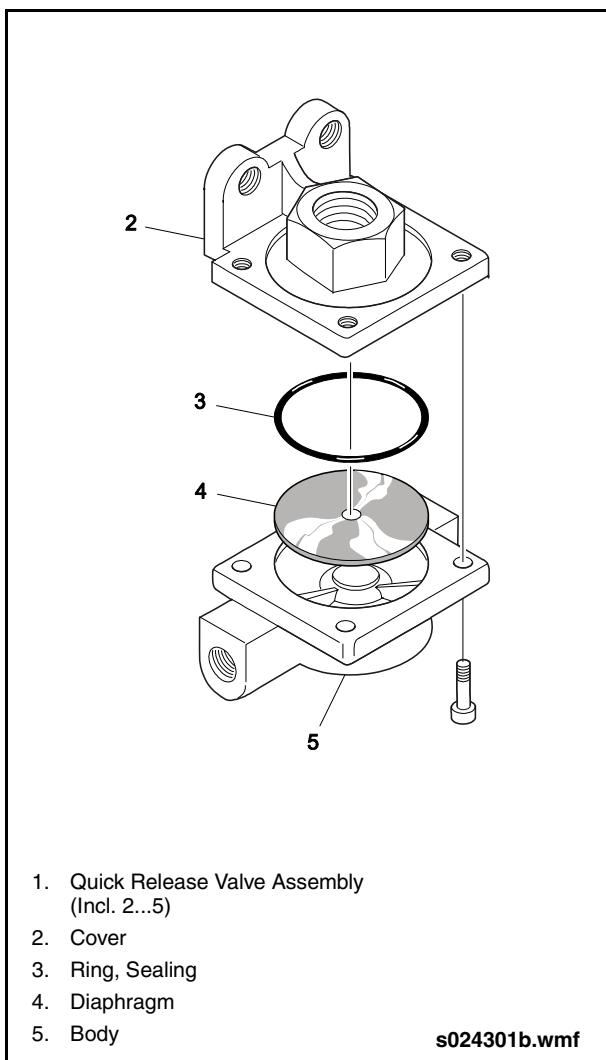

Fig. 8-21: QR-1 Quick Release Valve Assembly
2. Remove diaphragm. See “Fig. 8-21: QR-1 Quick Release Valve Assembly” on page 74.